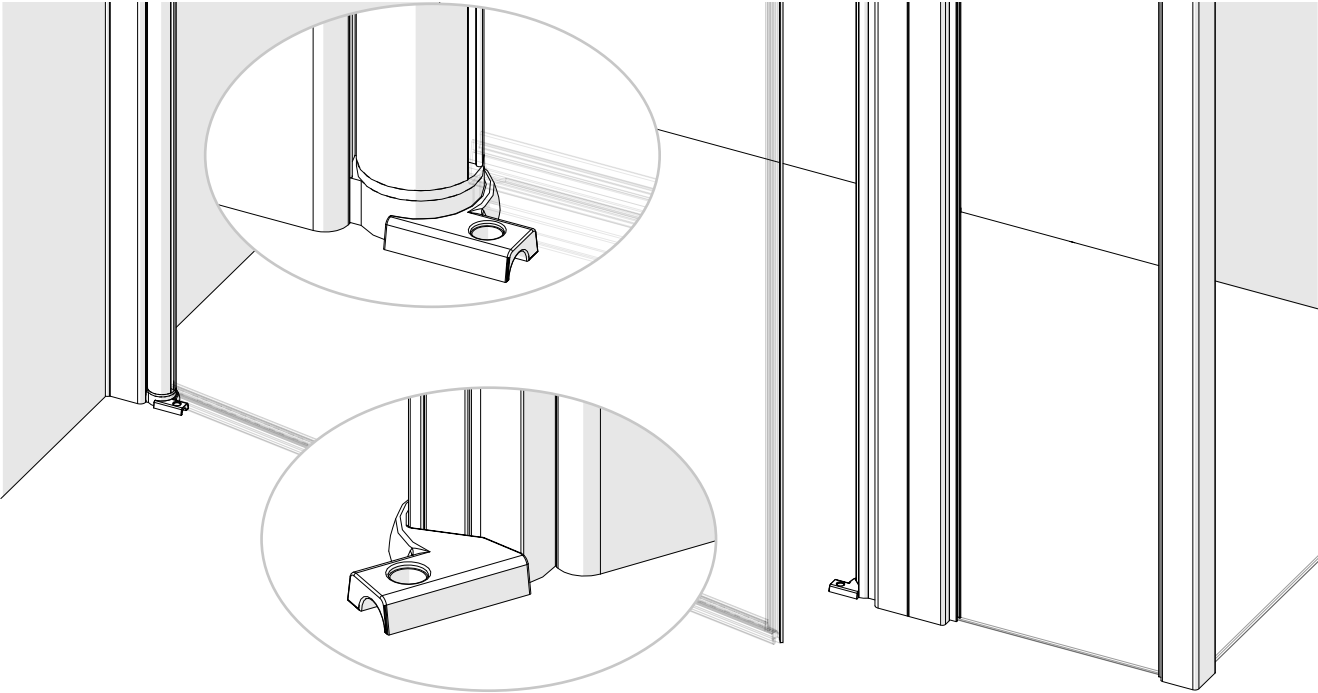

Fig. 3.4
- VI. Offer the bump strip holders up to the door(s) and close-to, then mark the hole positions. *Figure 3.4*